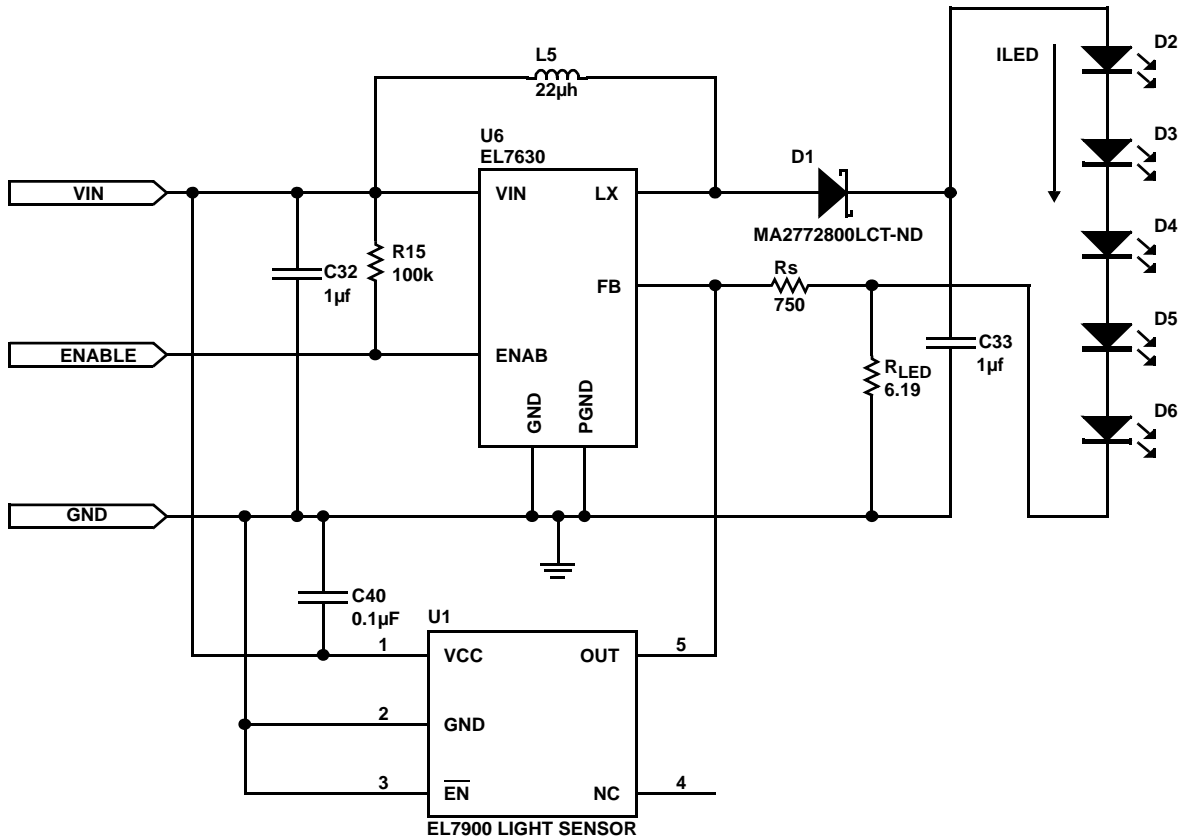

FIGURE 5. AUTOMATIC WHITE LED BACK LIGHT INTENSITY CONTROL CIRCUIT
Figure 5 shows the complete automatic back light control circuit for cell phones. The EL7900 senses ambient light intensity and outputs a proportional current. Equation 1 shows the relationship between light intensity (E) and output current (IOUT).